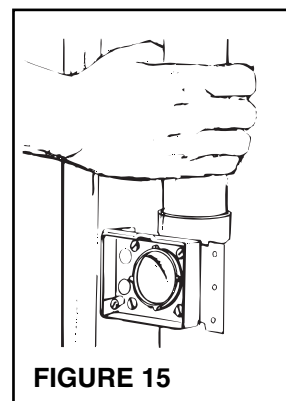

FIGURE 15
12. Refer to Figure 15. Insert tubing into fitting with a twisting motion to evenly spread cement. Be sure tubing is firmly seated in fitting.